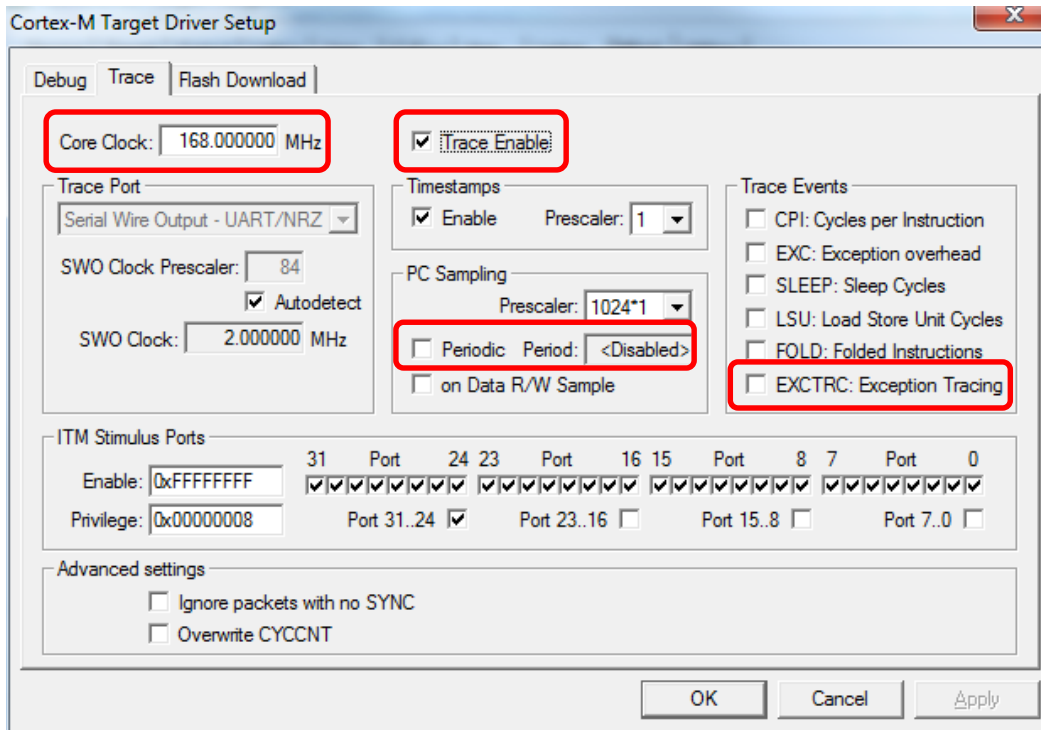

Figure 5. Target options to configure the logic analyzer tool.
2. Select the Trace tab, shown in Figure 5. Select **Trace Enable**. Unselect **Periodic** and **EXCTRC**. Set **Core Clock** to the frequency that you have set for the core of your microcontroller. (168 MHz was used for the project shown in Figure 5.) Click OK to return to the Debug tab.